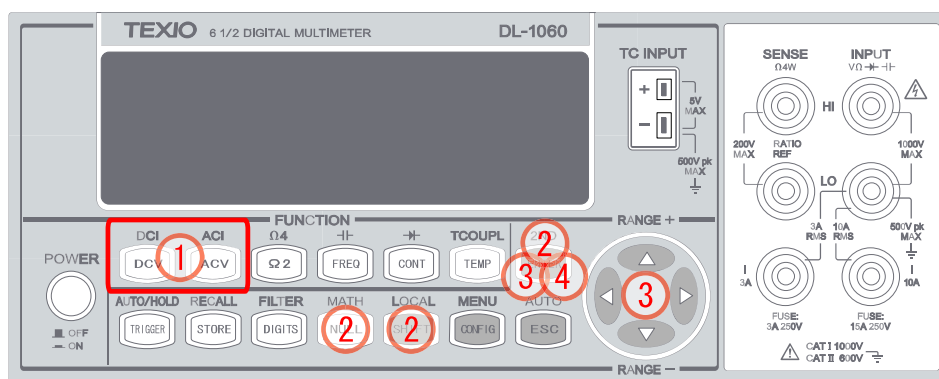

Figure 3-28
2. Do the procedure SHIFT + NULL > dBm > ENTER > REL RES to access the setting as shown in **Figure 3-28**.